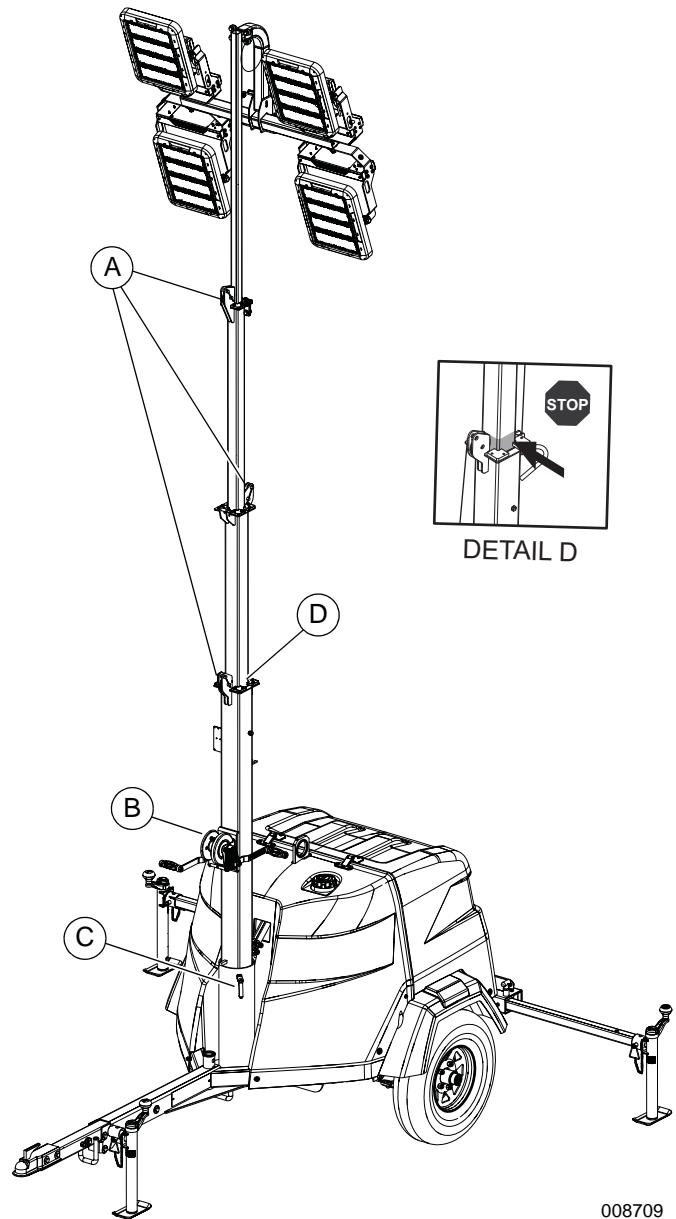

Figure 3-2. Pulley Locations—Manual Winch
- See Figure 3-2. Inspect the mast cables for excessive wear or damage. Verify the cables are properly centered in each pulley (A). Inspect the electrical cord for damage.
- Rotate the mast by loosening the mast rotation knob (C) at the bottom of the mast. Turn the mast until the lights face in the desired direction. Tighten the mast rotation knob to secure the mast in position.
- Using both hands, rotate the winch (B) to slowly extend the mast. Verify the coiled electrical cord is extending at the top sections of the mast. Stop extending the mast when the colored mark (D) on